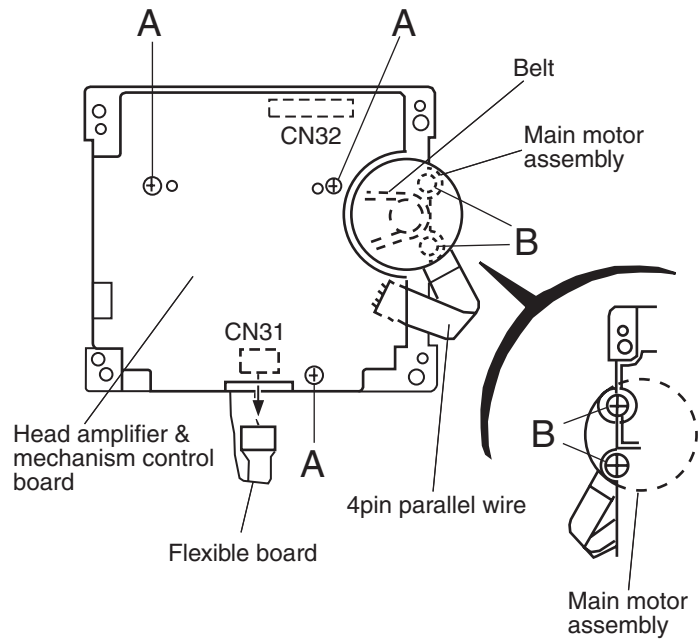

Fig. 4
## ■ Removing the head amplifier & mechanism control board (See Fig. 4)
## ■ Removing the main motor assembly (See Fig.4 ~ 6)
1. Remove the two screws **B** retaining the main motor assembly (See Fig. 4 and 4a).